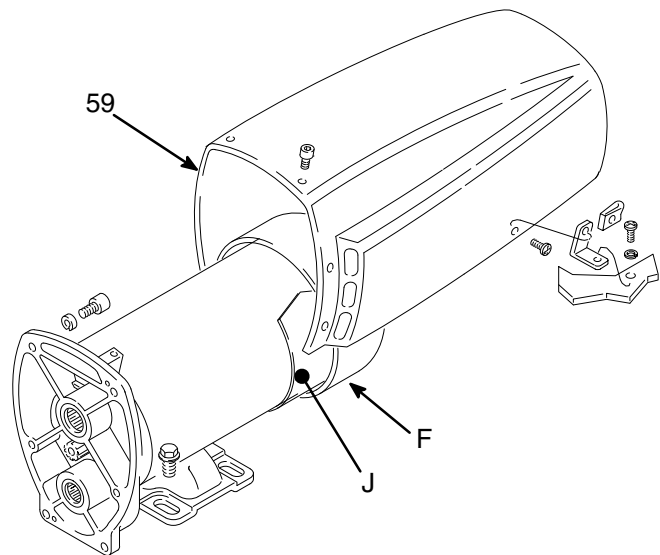

Fig. 8
3. Remove the pressure control cover, the shield (59), the fan cover (F), and both of the inspection covers (J). See Fig. 8.